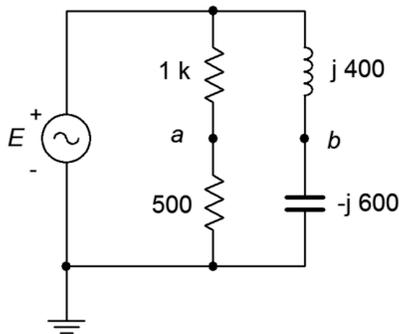

Figure 4.19
31. For the bridge circuit of Figure 4.19, determine  $v_{ab}$ . The source is 50 volts peak.
39. Given the circuit of Figure 4.19, determine a new value for the inductor such that the magnitude of  $v_b$  equals the magnitude of  $v_a$ . Assume that the source frequency is 20 kHz.
43. Given the circuit of Figure 4.19, is it possible to change the values of the two resistors such that the phase angle of  $v_a$  is the same as that of  $v_b$ ? If so, what are the new values, and if not, explain why it is not possible.